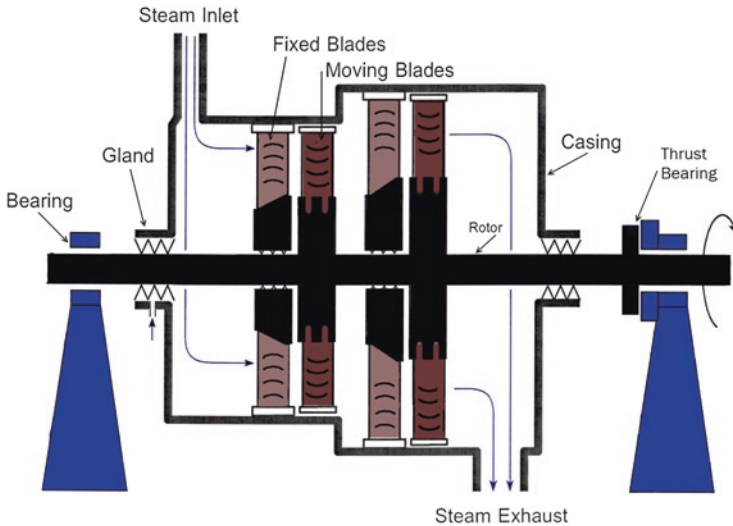

Fig. 10.4 Simple steam turbine
Figure 10.4 shows a cutaway of a steam turbine that has been built with the above ideas in mind. You can see the shaft, the moving blades and the fixed blades—in this case, two sets of each.
You've probably realised that there will need to be some kind of sealing arrangement around the shaft; otherwise the steam would escape without pushing on the blades. In Fig. 10.4, in common with most large turbines this sealing is provided by a 'gland' into which steam is supplied—some flows in, some out, sealing the turbine in the process (a bit like the seal injection flow supplied to your reactor coolant pump shafts).
Finally, it's worth noting that as the steam pushes on the blades to make the shaft spin, it also pushes along the shaft. You could build a turbine like the one shown in Fig. 10.4, but you'd need a substantial bearing behind the blades to absorb this lengthways thrust. Instead, a more typical design for powerful steam turbines is to have two sets of blades mounted opposite to each other. Unlike the turbine shown in Fig. 10.4, the steam would then enter at the middle and expand (push) in both directions, so balancing out the thrust. This is how your real 'High Pressure (HP) Turbine' is constructed.